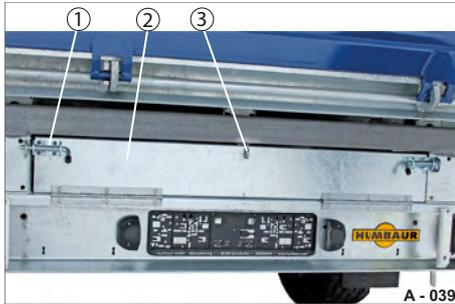

Fig. 160 Ramp plank bay, CLOSED
► If necessary, close the padlock in the attachment (Fig. 160/3).